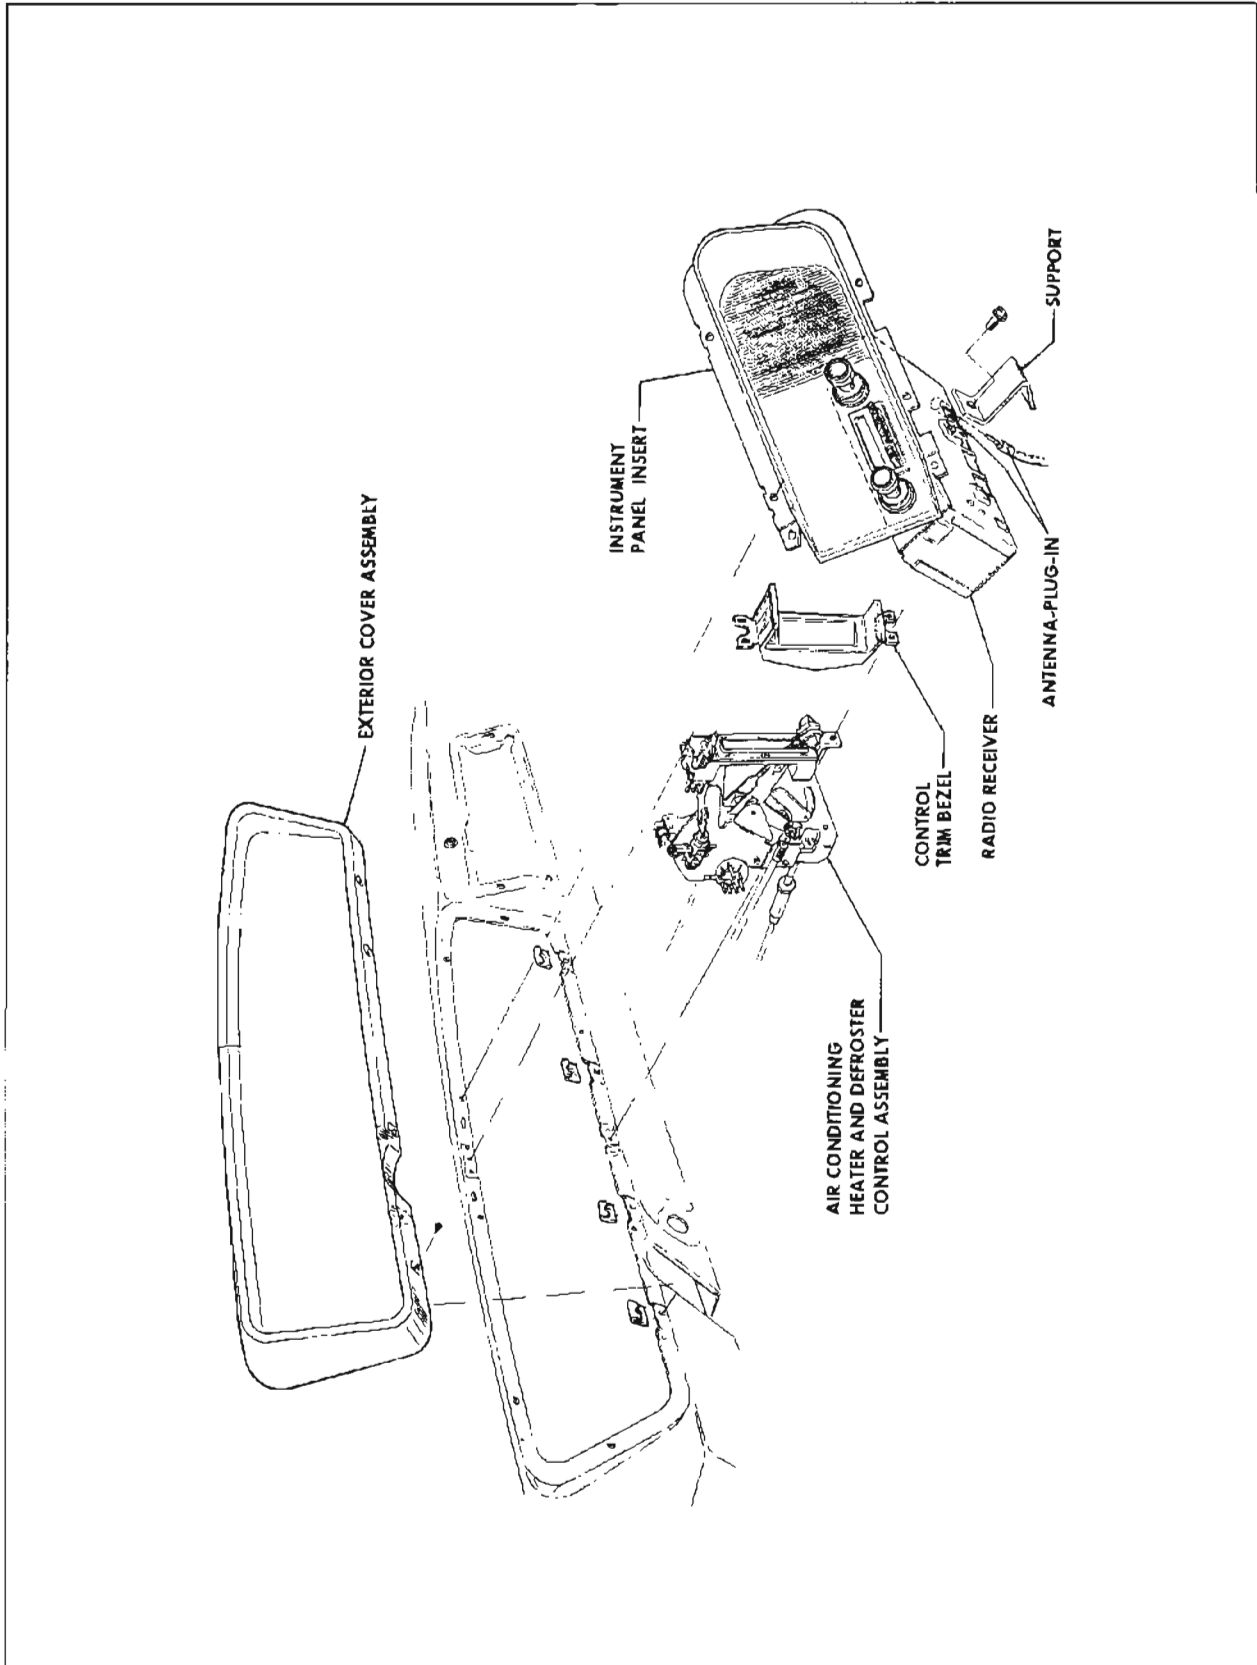

Figure 11-114—Air Conditioner, Heater and Defroster Control Assembly Installation
1. Remove five screws and take out exterior cover assembly (see Figure 11-114).